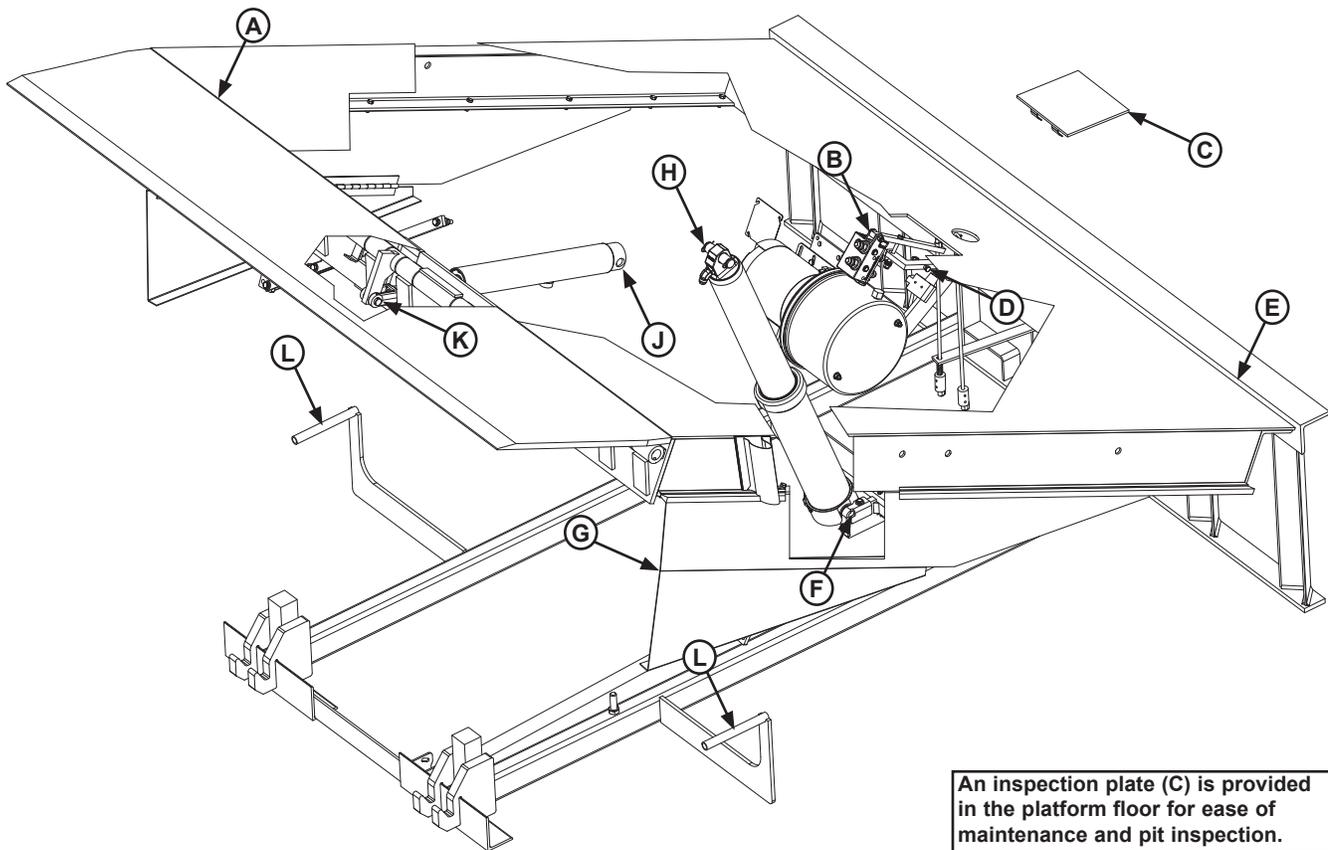

Figure 24
- Lubricate the following areas with light weight machine oil (see Figure 24):
- Lubricate the following areas with white lithium grease (see Figure 24):